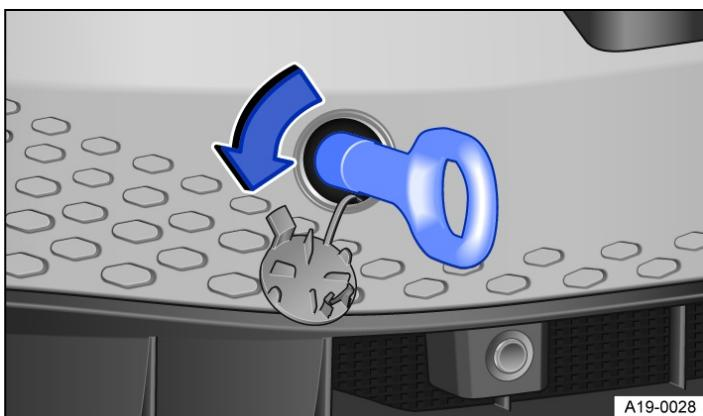

Fig. 2 In the front bumper on the right: screwing in the towing eye.
- Turn the towing eye anti-clockwise into the threaded hole and tighten as far as possible → Fig. 2, → . Use a suitable object to screw the towing eye fully and securely into the mounting.